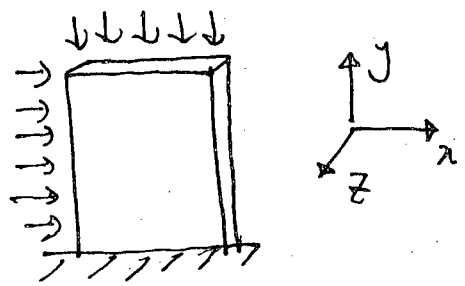
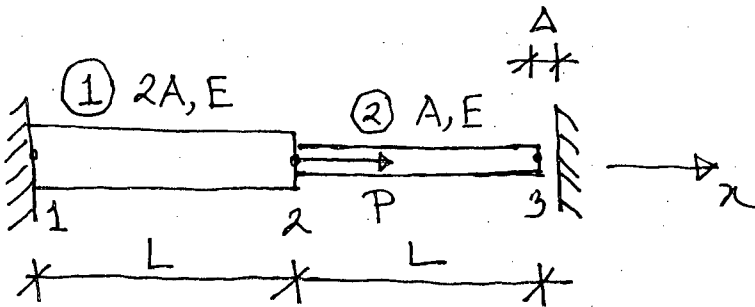

Fig. 2
Fig. 3
- (c) A shear wall is subjected to vertical and lateral loads as shown in Fig. 2. What constitutive law will you use for the problem? Will there be any strain in the z-direction? (6 1/3)
2. (a) What are the advantages of FEM over other matrix based methods of structural analysis? (4)
- (b) Determine the support reaction forces at the two ends of the bar shown in Fig. 3, given the following, (10)